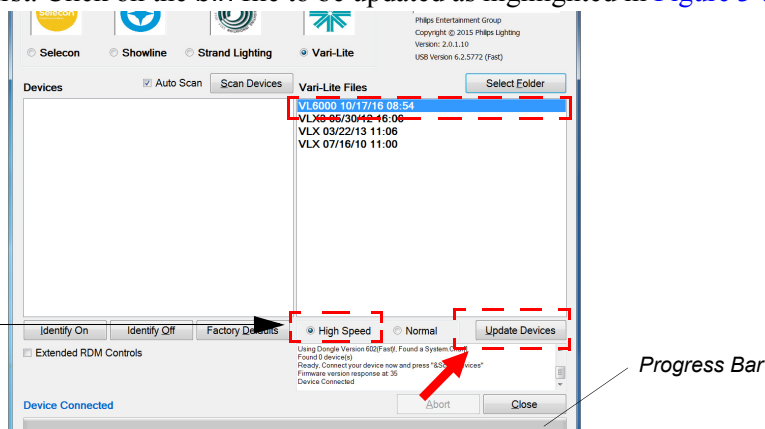

Figure 3-5: bin File Selection
- Step 7. When the LED Driver Board requires updating, a new VL1100LED_XXXXXX_First.bin file will need to be updated first. Click on the bin file to be updated as highlighted in Figure 3-5.
- Step 8. As indicated in Figure 3-5, click on Update Devices to start upload.
VL1100_xxxxxx_Second.bin file. Click on the bin file to be updated as highlighted in Figure 3-5.
- Step 10. As indicated in Figure 3-5, click on **Update Devices** to start upload.